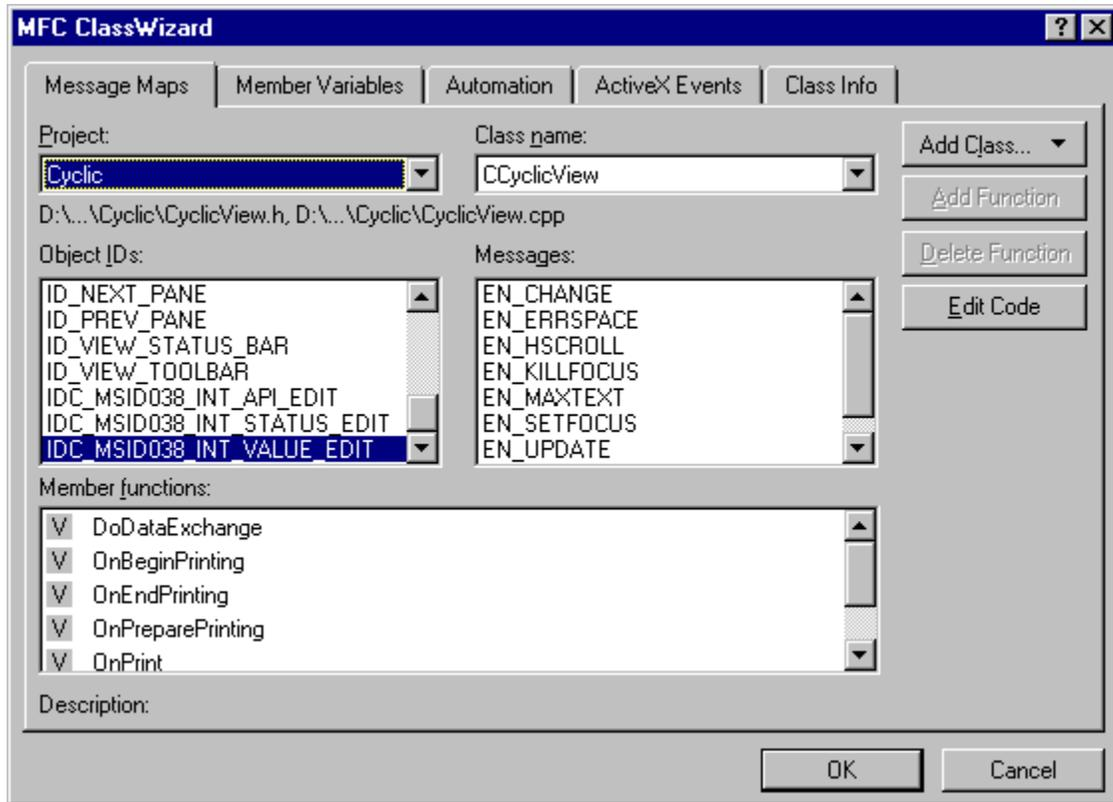

Figure 27 ClassWizard Dialog with the Message Maps tab selected.
12. In the ClassWizard dialog choose the **Message Maps** tab. The dialog should now look like the one in Figure 27.